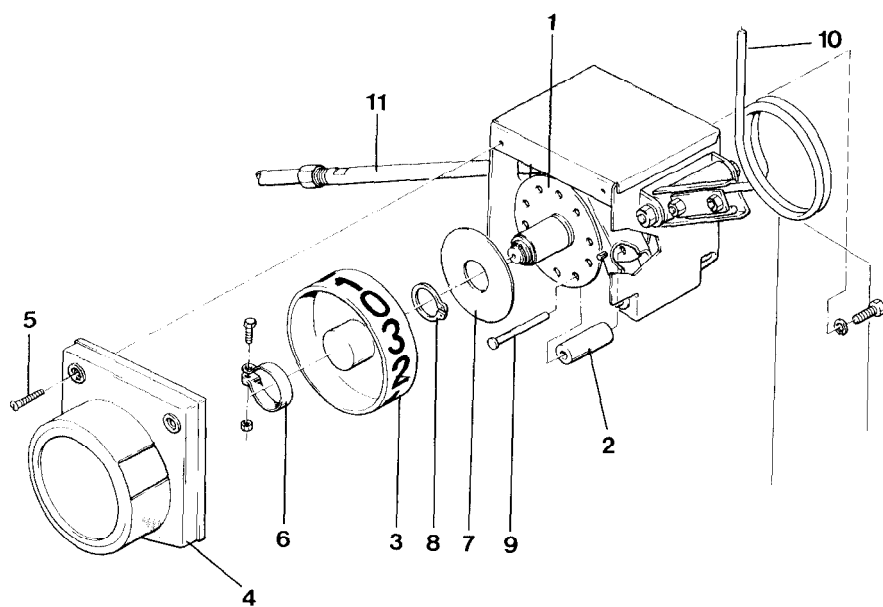

Fig. 63
A divisor wheel (Fig. 63/1) inside the switch box controls the rows, in which the tramlines are created. For the 2-, 3-, 4-, and 6-fold switching the divisor wheel is the same. For conversion of the switch box to another switching rhythm simply place the trip rollers (Fig. 63/2) as described at the end of this para. into other holes and add, if necessary. For all further switching rhythms corresponding divisor wheels can be supplied. The following table indicates which divisor wheel corresponds to which seed drill bout width and to which tramline spacing:
The divisor wheel (Fig. 63/1) is the same for the 2-, 3-, 4-, and 6-fold sequence. If the order of the sequences should be changed, only the shift rollers (Fig. 63/2) at the divisor wheel (Fig. 63/1) need to be re-positioned or added.
For the 5-, 7-, 8- and 9-fold sequence it is necessary to exchange the existing divisor wheel (Fig. 63/1) against a corresponding divisor wheel.
When changing the control box to another sequence, it is necessary to put on also the correct self-adhesive number strip on the counter wheel (Fig. 63/3).
It is only necessary to change the position of the switch rollers (Fig. 63/2) or to add them. This change is also possible if the switch box still is mounted to the seed drill:
- Remove protective cover (Fig. 63/4) after taking off two of the screws (Fig. 63/5).
- Remove clamp (Fig. 63/6) and pull off together with the counter wheel.
- Remove the securing disc (Fig. 63/7) after removing the circlip 24x1.2 (Fig. 63/8).
- Now the position of the free accessible shifting rollers (Fig. 63/2) may be changed according to Fig. 64 after having pulled out the pins (Fig. 63/9).
- Mount the securing disc (Fig. 63/7) and circlip (Fig. 63/8).
- Apply new number tape (Fig. 65) to the counter wheel (Fig. 63/3) and mount it with the aid of the clamp (Fig. 63/6) onto the divisor wheel.
- Now shift a few times the operating lever (Fig. 63/10) at the switch box until the clamping tube (Fig. 63/11) is pulled by a switch roller (Fig. 63/2) and held in that position. The protective cover (Fig. 63/4) is held to the switch box and the number wheel (Fig. 63/3) is turned until the number "0" shows up in the window of the protective cover.
At the two-fold sequence again a "0" must show up due to the two consecutive following switch rollers, and the clamping tube (Fig. 63/11) must stay in the pulled position due to the second switching roller:
- Fit the counter wheel (Fig. 63/3) with the clamp (Fig. 63/6) and the protective cover (Fig. 63/4).
- Switch the divisor wheel by the pulling lever (Fig. 63/10) a few times until the counter wheel (Fig. 63/3) has made three complete turns at least and check whether the switch box operates properly, i. e. whether in every "0"-position the clamping tube (Fig. 63/11) is being pulled properly.